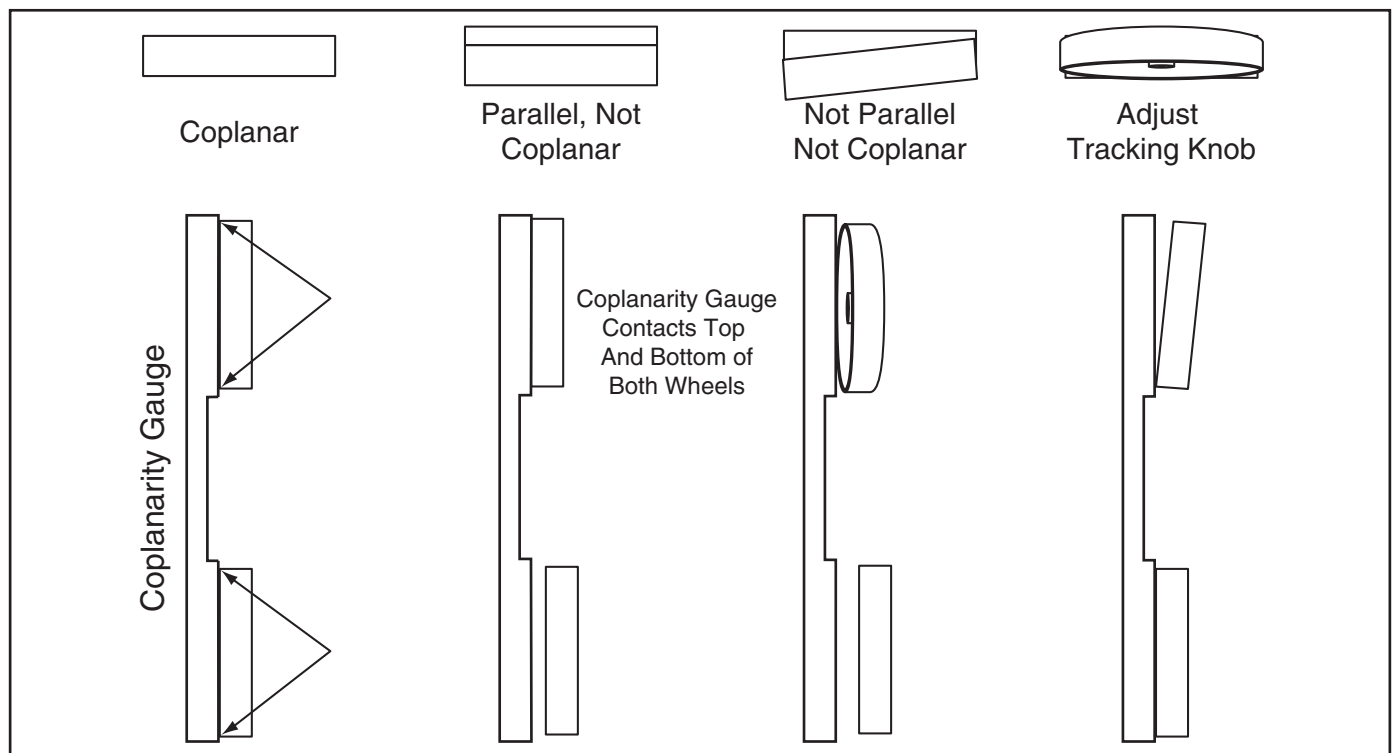

Figure 63. Coplanarity diagram.
7. **Figure 63** shows the positions of the wheels when coplanar. When your wheels are coplanar, re-adjust the guide blocks and rear support bearings, and replace the wheel covers.